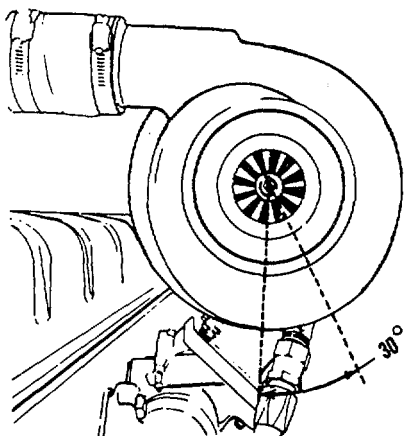

Fig. 10-40, T-333. Turbocharger mounting
2. Check position of turbocharger oil drain. This drain must always be in a vertical or down position or within 30 deg. of that position when turbocharger is mounted on the engine. Fig. 10-40. Deviation from this position can cause flooding of the bearing housing and turbine seal leakage.